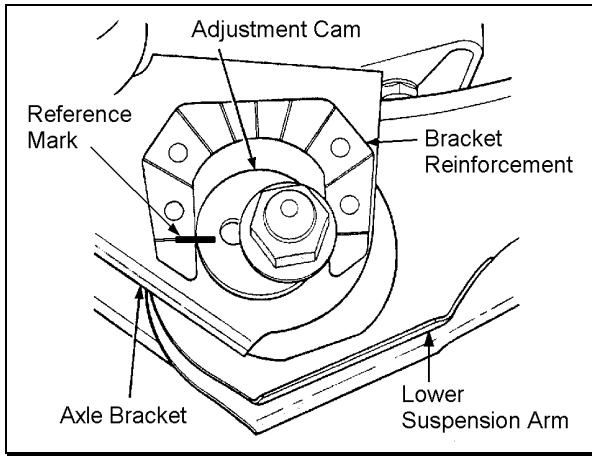

Figure 3
2. Paint or scribe alignment marks on the adjustment cams and axle brackets for installation reference. See Figure 3.